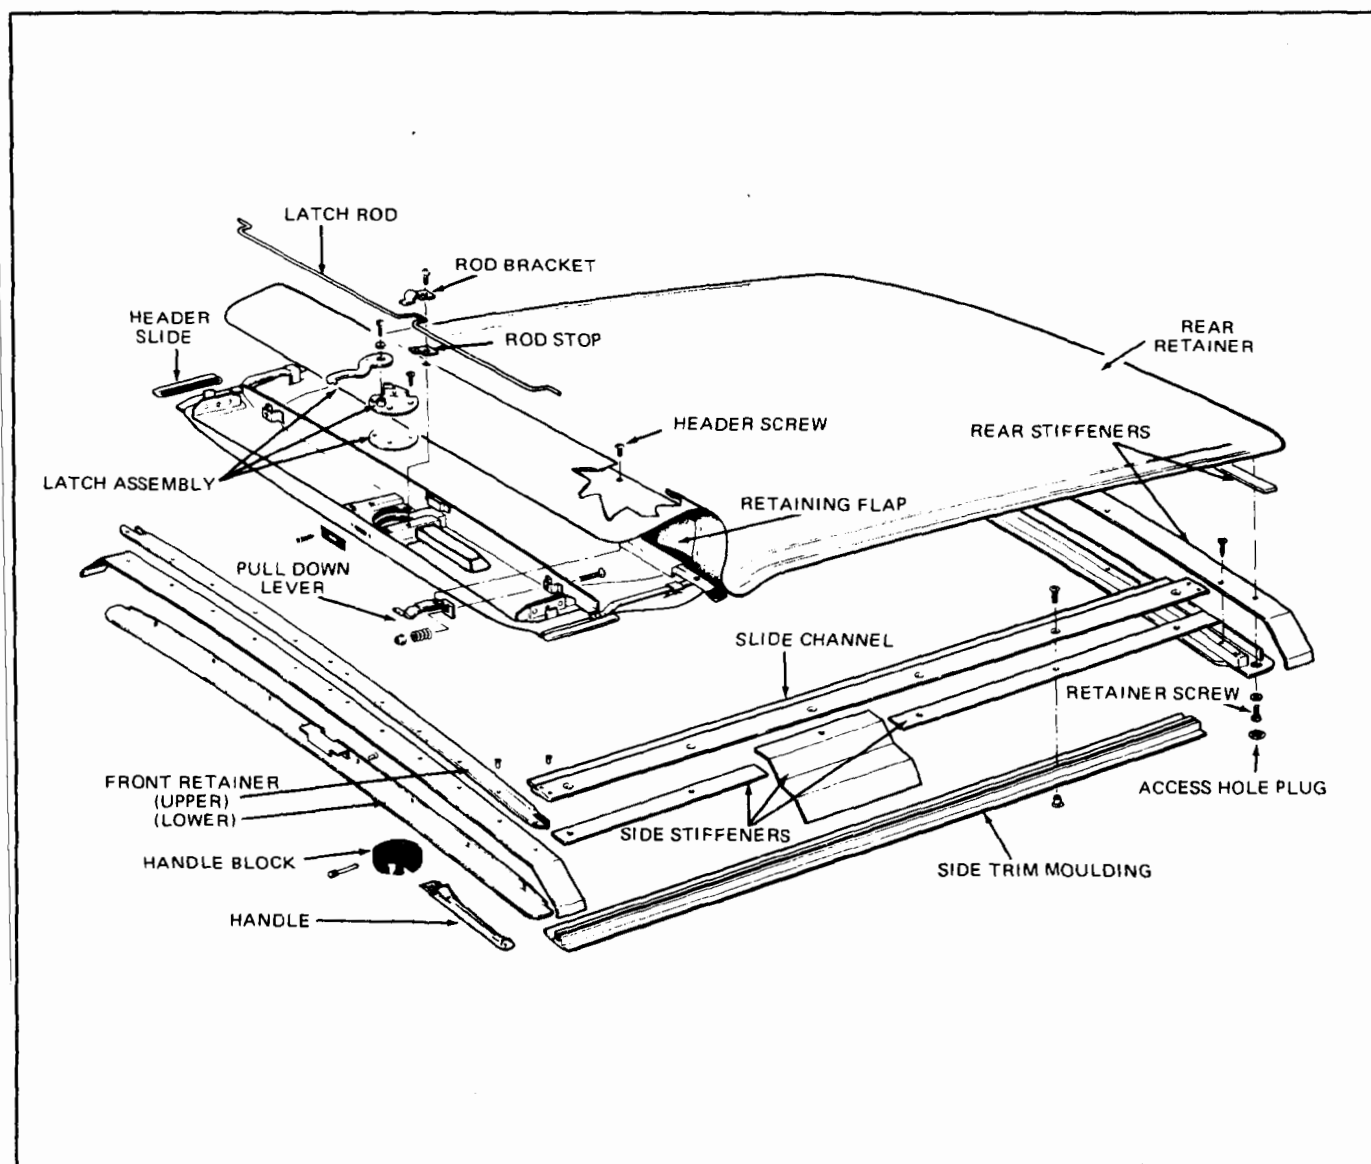

Fig. 15-57A Sunroof Top Assembly Components
2. Remove the hole plugs from the rear inner retainer and remove the screws which are visible in the access holes (Fig. 15-57A).